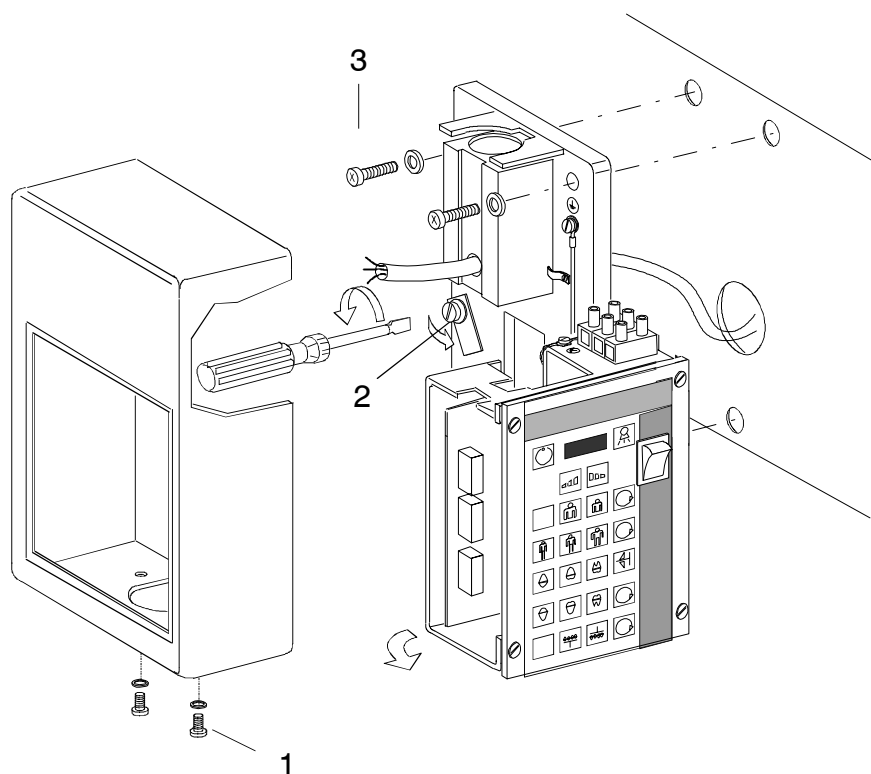

Figure 6-2
2. Referring to Figure 6-2 below, remove wall plate/timer external cover by loosening the two screws (1) located in the bottom part of the plate.
3. Loosen the internal screw (2) fixing the components plate and rotate the support by 90°.